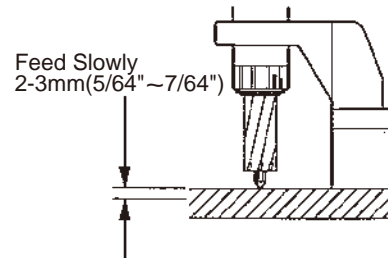

Fig. 22
**For the first 2 to 3mm (5/64" - 7/64") of the drilling, operate the drill gradually and only apply a light force to the Rod Handle. (Fig.22)**